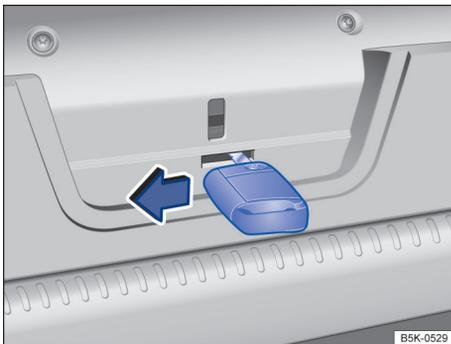

Fig. 62 Inside the luggage compartment, behind the cover: Opening the trunk lid.
- Insert the key bit into the slot in the trunk lid trim and press the release lever in the direction of the arrow → fig. 62 to unlock the trunk lid. At the same time, push the trunk lid out until it opens. <